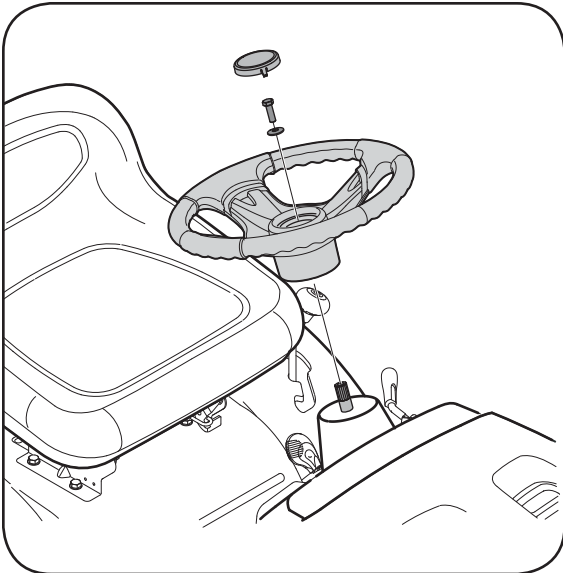

Figure 3-3
2. Place the washer (with the cupped side down) over the steering shaft and secure with the hex bolt. See Figure 3-3.